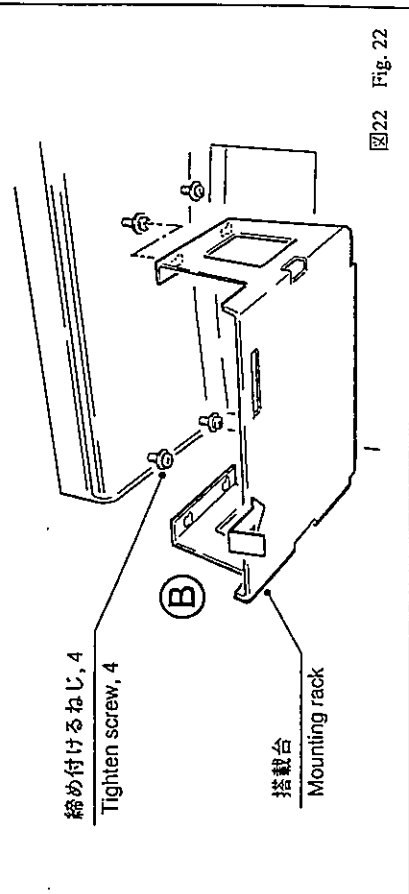

図22 Fig. 22
- (2) SSZ-305搭載台を、だるま穴をねじに合わせて取り付け、ねじ4本を締め付け固定する。(図22㊸)
- (2) Install SSZ-305 mounting rack, with its dowel holes fitted to screws. Fasten 4 screws and secure rack. (㊸ in Fig. 22)